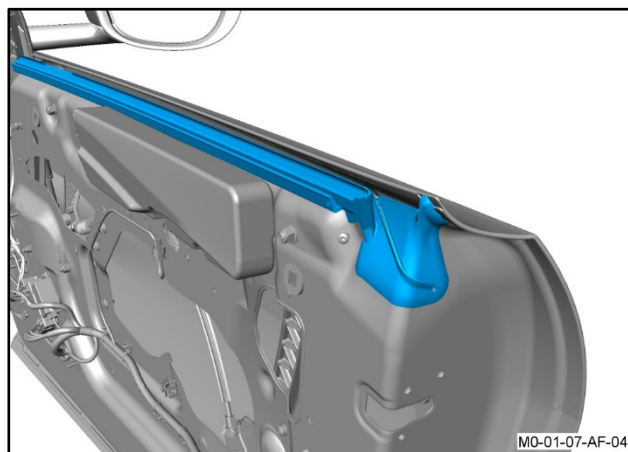

Figure 10
19. Remove the inner waist seal for the door (refer to Figure 10).